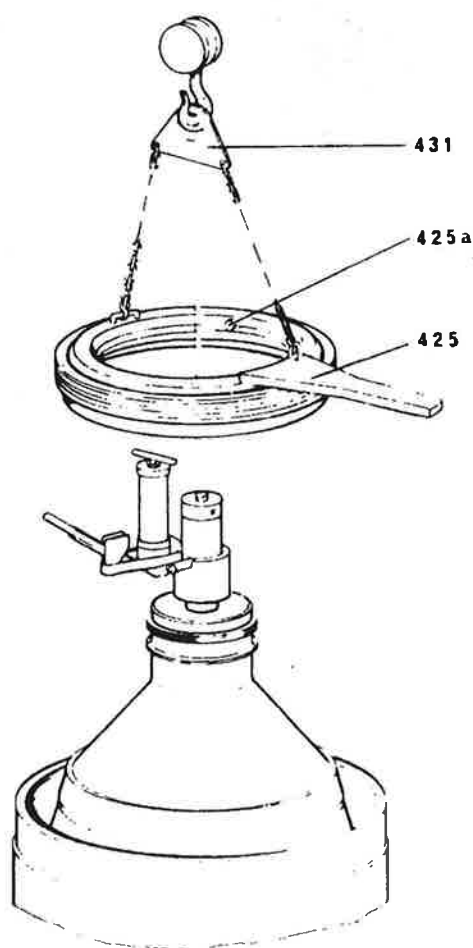

Fig. 4/6
**Fig. 4/5:** Use wrench 429 to remove feed tube from feed and discharge housing. After removing the housing, loosen screws B in ring 2. Then use wrench 421 to unscrew the double centripetal pump from the ring (**left-hand thread**). Remove the hood.